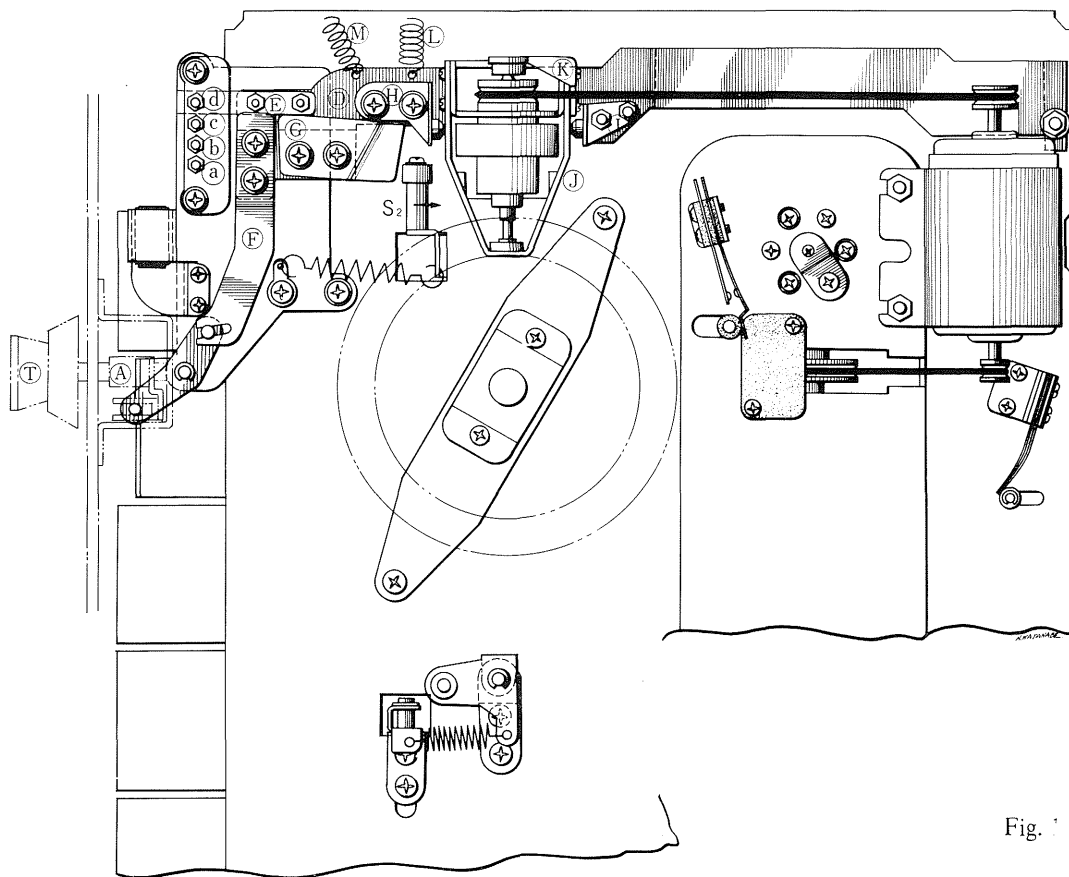

Fig. 1
1. ADJUSTMENT OF SPEED CHANGE MECHANISM (As shown in Fig. 1)
2. ADJUSTMENT OF THE SWITCH LEVER **C** (As shown in Fig. 1)
3. ADJUSTMENT OF THE 5-P WHEEL ASSEMBLY (Fig. 1)